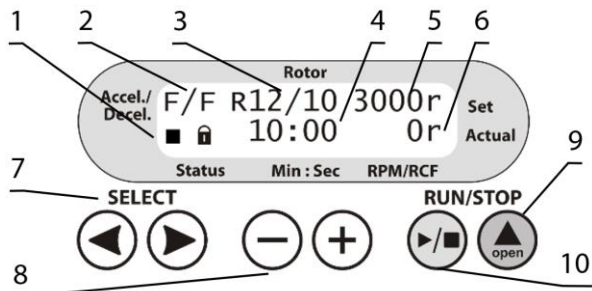

Figure 2. LMC-56 control panel
- Check the power cable for any signs of damage. Connect the power cable to a properly grounded mains socket. Set the power switch on the unit to position **I** (on). Press the **▲ Open** key (fig. 2/9) and lift the lid by hand.
- Acceleration and deceleration modes (fig. 2/2);
- Set rotor speed in RPM or RCF¹ (fig. 2/6);
- Status icons of rotor, ■ stopped or ► running (fig. 2/1, first symbol);
- Status icons of lid, ■ closed or ► open (fig. 2/1, second symbol);
- Set time of centrifugation, in minutes and seconds (fig. 2/4);
- Actual rotor speed, in RPM or RCF (fig. 2/6);
- 5.4 Press the ▲ **Open** key (fig. 2/9) and lift the lid by hand. Check the rotor, buckets for any signs of wear or corrosion, and replace if necessary. Insert **EVEN** number of tubes/microtest plates in rotor one opposite another. The loading in the opposite tubes must be equal.
- 5.5 **Setting parameters.** Use the **SELECT** ◀ and ▶ keys (fig. 2/7) to choose a parameter and the – and + keys (fig. 2/8) to modify it. Selected parameter will be blinking. Program automatically saves any changes made after no keys are pressed for 2 seconds.
- 5.5.1 Acceleration modes (fig. 2/2, first letter). Three modes of acceleration are available, slow (shortened to **S**), normal (**N**) and fast (**F**).
- 5.5.2 Deceleration modes (fig. 2/2, second letter). Four modes of deceleration are available, free brake (**0**), slow (**S**), normal (**N**) and fast (**F**).
- 5.5.3 Installed rotor (fig. 2/3). Combinations of rotors, adapters and their maximum allowed speed is listed below in the **Table 1**.
- 5.5.4 Rotation parameters (fig. 2/5). Rotor speed can be set in RPM and in RCF, denoted after numeric value by **r** and **g**, accordingly. Values convert after changing units. RCF depends on selected rotor or adapters, as shown in Table 1.
- 5.5.5 Time setting (fig. 2/4). Select duration of centrifugation in minutes, step 1 minute.
5.6 Close the lid carefully and smoothly until a clicking sound is heard. Icon  appears on the display (fig. 2/1).
5.7 Press the **RUN/STOP** / key (fig. 2/10) to start centrifugation. Icon  (fig. 2/1) and actual speed (fig. 2/6) are shown in the lower line of the display. The timer (fig. 2/4) starts the countdown after set speed is achieved.